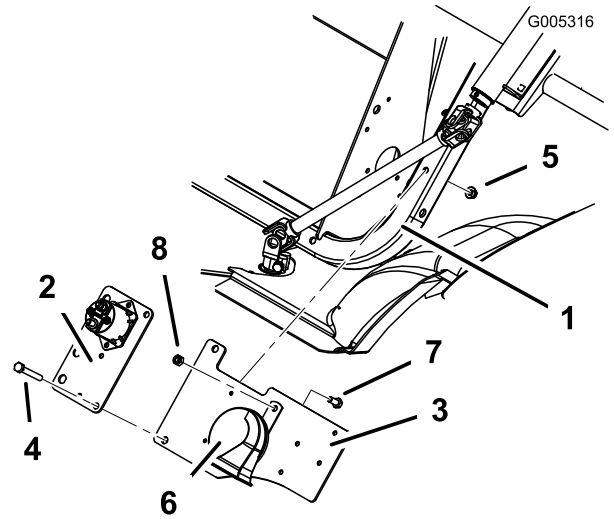

Figure 4
3. Lift the solenoid plate away from the frame and install the electrical mount plate between the solenoid plate and frame (Figure 4).
4. Use the fasteners to secure the solenoid plate and electrical mount plate to the frame (Figure 4).
5. Install the horn to the electrical mount plate as shown in Figure 4 using a bolt (5/16 x 3/4 inch) and locknut (5/16 inch).